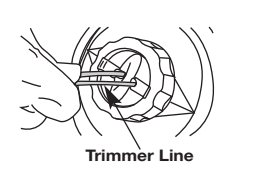

Fig. 15
2. Using 16 ft. (4.8 m) of 0.095 in. (2.41 mm) replacement line push both ends of the line through the holes in the bump knob until they protrude through the eyelets on both sides of the cutting head. Continue pulling the line until approximately 8 ft. (2.4 m) is visible from both sides of the cutting head. (Fig. 15)